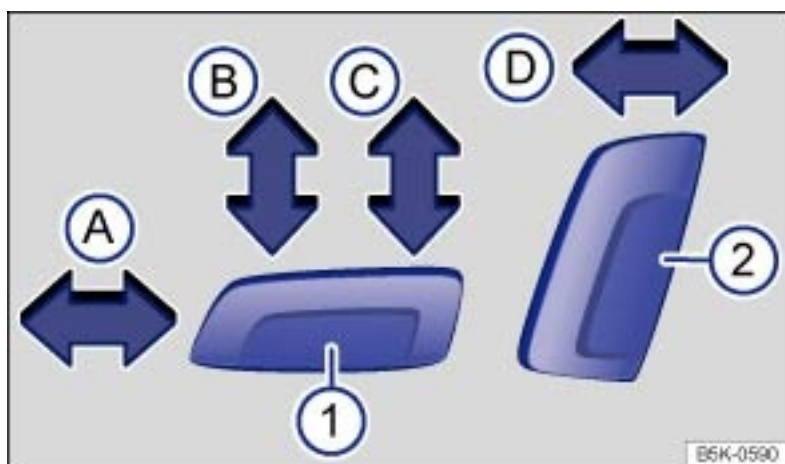

Fig. 40 Driver seat: Electrical controls to move the seat backward or forward, and adjust seat cushion height and backrest angle (if
① Fold the seat backrest forward or back into place (2-door vehicles only)	Folding forward: Pull lever and fold seat backrest forward. Push the seat forward at the same time. Folding back into place: Slide the seat back as far as it will go until it clicks into place. The backrest releases automatically and can be folded backwards. Engage the seat backrest in an upright position.
② Adjust the lumbar support	Push the lever forward or pull it backward.
③ Adjust the backrest angle.	Lean forward and turn the adjuster wheel forward or backward. If the vehicle has an electrical control for adjusting the backrest angle, see → Fig. 40 ②.
④ Adjust the seat height.	Move the lever several times up or down.
⑤ Move the front seat forward or back.	Pull the lever up and move the front seat. The front seat must lock in place after the lever is released!
Press the switch in the direction of the arrow → Fig. 40 :